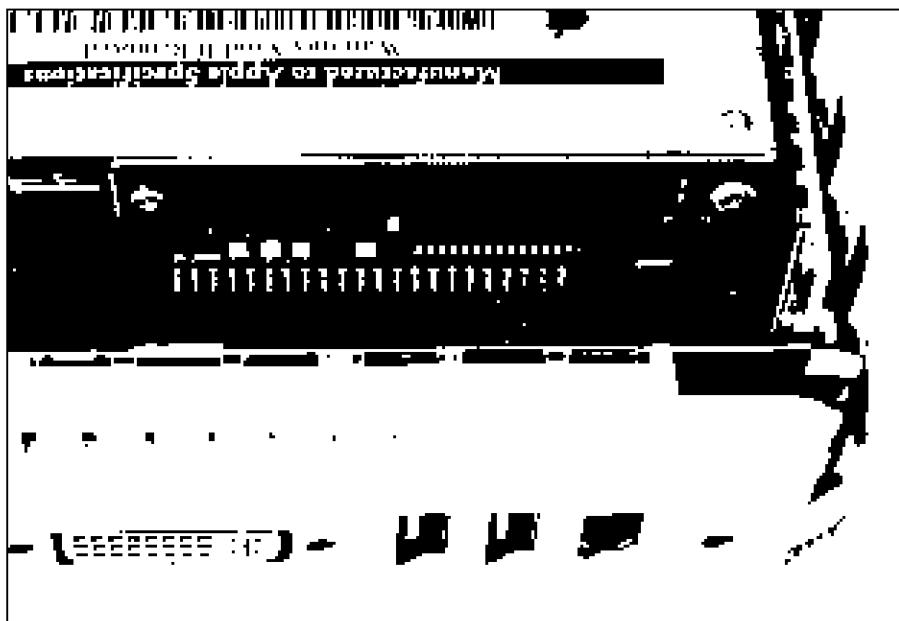

Figure 8-7:
8. Place the Mac mini on its bottom and turn it so that the rear side is facing you, as shown in Figure 8-7.
9. Remove the two screws in the interconnect board, as shown in Figure 8-7.